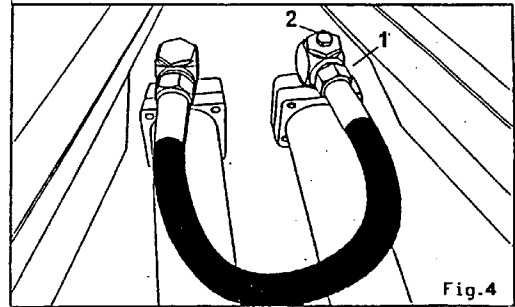
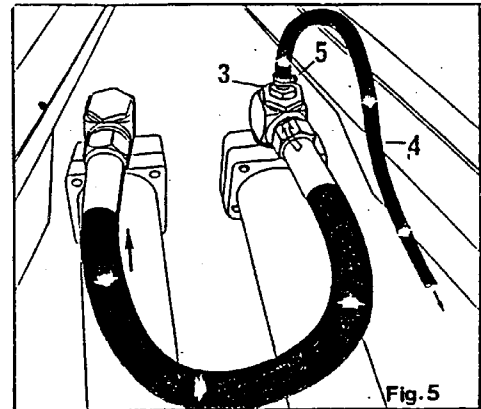

Fig. 4
Fig. 5
- 5F (See Fig. 4) Disconnect one end of the rocking oil hose and hold the hose into a clean container. Oil drained in this manner may be reused **ONLY** if it is poured back into the reservoir **THROUGH** the hydraulic filter. OR.....
(See Fig. 5) Unscrew the vent plug (Fig. 4, item 2) and insert a screw joint (Fig. 5, item 3, available under part number 300997-M22 x 1.5) connect a CLEAN hydraulic hose to the screw joint and put the other end in the filler cap of the reservoir. (Hose should be 13/4 x length. Normally, a 13/4 x 2400 hose will be long enough, but measure to be certain). OR.....